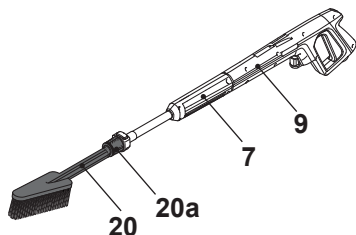

Fig. 10
1. Attach the extension lance (7) onto the spray gun (9) (Fig. 10).
2. Attach the rims brush (20) onto the extension lance.